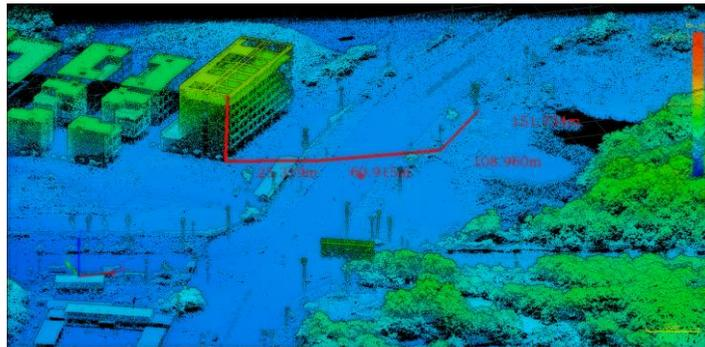

Figure 3-96 Measure 3D distances
- (1) Click the menu <Tools> → <Measure 3D Distances>.
- (2) Click the left mouse button to draw, the measured distance data and line will be displayed in the view.
- (3) Double-click on the left mouse button to end the measurement line drawing (Figure 3-96).
- (4) Cancel: click <Measure 3D Distance> again.